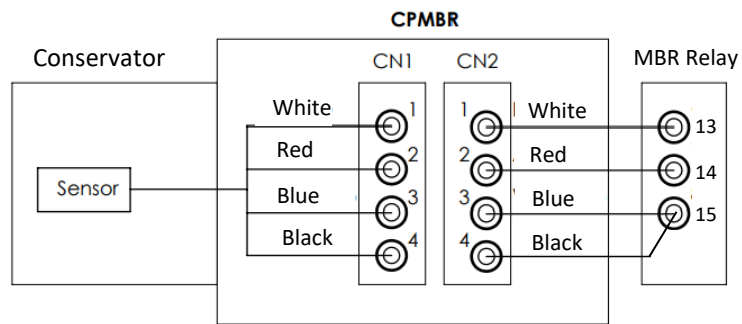

Figure 24 – Connection diagram
5. Strip approximately 4 mm of each of the 4 conductors of the cable. Then, make the electrical connections following the diagram shown in Figure 24. The connection terminals are spring-loaded, meaning that you simply insert the conductive part into their terminals. Therefore, using needle-type terminals is optional;